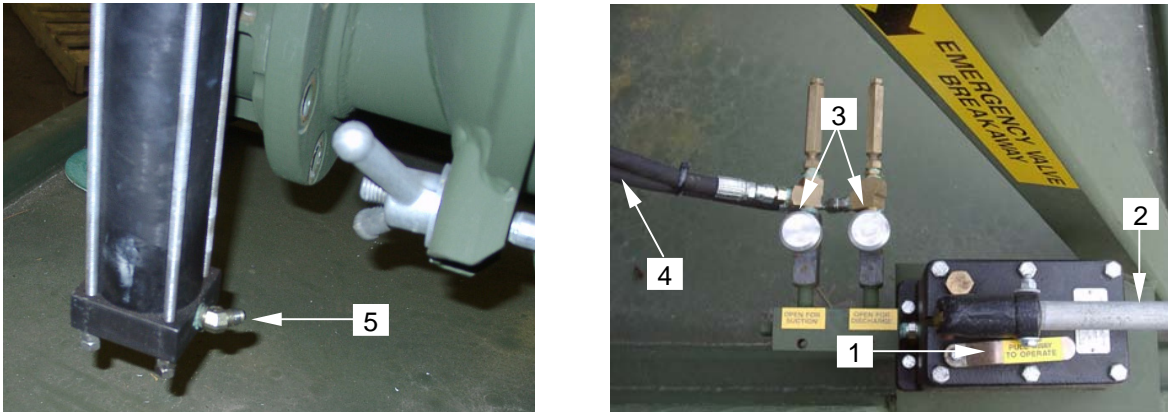

Figure 2. Closing Intake Valve. Disconnect Hydraulic Line
1. Close drain valve by placing hydraulic pump selector lever (**figure 2, item 1**) parallel with pump handle (**figure 2, item 2**).
2. Close the hydraulic line control knobs (**figure 2, item 3**).
3. Disconnect the intake valve hydraulic line (**figure 2, item 4**) from the fitting (**figure 2, item 5**) on the piston valve.